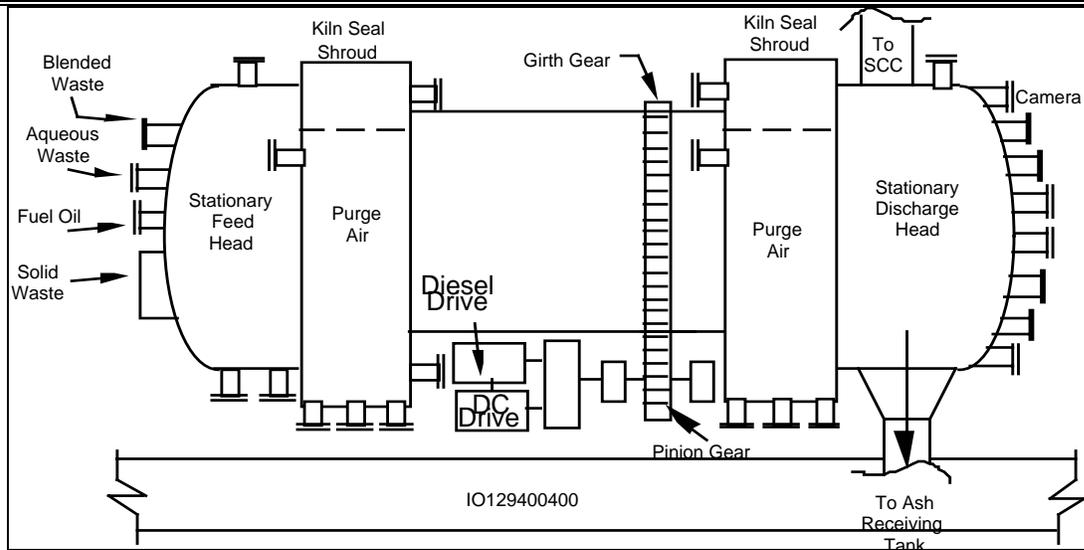
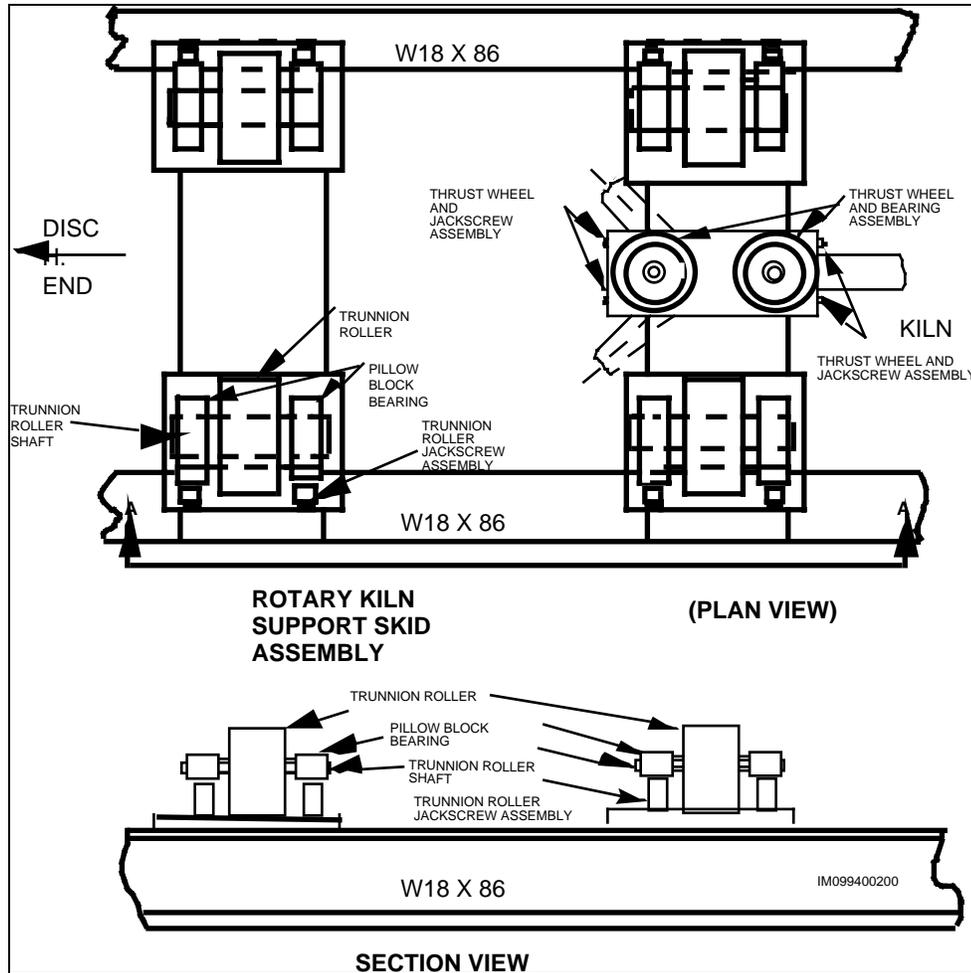

Figure 4 Rotary Kiln (RK)
Figure 5 Rotary Kiln Support Assembly
The RK is a refractory-lined carbon steel cylindrical vessel 10 ft. (') in diameter and 25' long. A wool blanket separates the refractory bricks and the carbon steel vessel. The RK refractory lining is 12" thick and will withstand temperatures up to 2800°F and pressures up to 15 psig. The feed end of the cylinder is tapered. The vessel has a stationary feed head which connects to the Solid Waste Feed System, Aqueous Waste System, and the Blended Waste System. The vessel also has a stationary discharge head which connects to the SCC, the Ash Receiving Tank, and the Tertiary Air Fan. The middle section of the vessel is a rotating cylindrical combustion chamber which is connected to the stationary feed and discharge heads by two sliding contact/labyrinth type seals. Each kiln seal is enclosed by a seal shroud which is exhausted to the HVAC system. The interior of the discharge head is protected by specially shaped nose tiles. The feed head provides ports for the waste burner/nozzle, fuel oil burners, combustion air, solid waste feed fire door, viewing ports, and instrumentation connections. The discharge head has a manway access opening, ash discharge port, exhaust gas port, tertiary air supply port, viewing/camera ports, and instrumentation connections. (See Figure 4, *Rotary Kiln (RK)*). The RK rotating cylinder section is mounted on rollers. The rollers support the cylinder via forged steel riding rings, while thrust wheels prevent movement of the cylinder along its long (longitudinal) axis. (See Figure 5, *Rotary Kiln Support Assembly*)